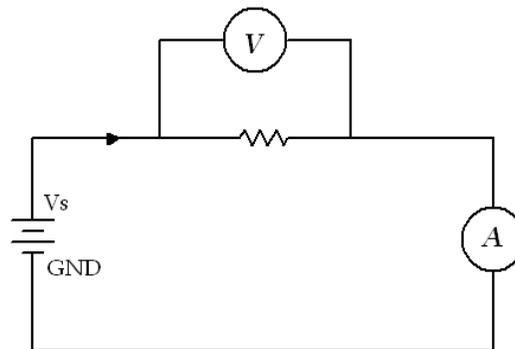

Figure 4. Circuit diagram to verify Ohm's law. Also to find the value of an unknown R
- 1) **Connect** the $220\ \Omega$ resistor, DC voltmeter and a DC ammeter to the battery as shown in the Figure 4 below. **Fix** all of them on your bread board. **Show** your connection to your instructor before switching the power supply on.
4) **Plot** I_D versus V_D for forward bias as well as reverse bias on a graph paper as shown in Figure 4. **Compare** your graph with the theoretical one. Understand the behavior of the diode during forward and reverse bias conditions. Also, see the change in resistance at different points. Again, from the graph we see that the diode does not adhere to ohm's law.